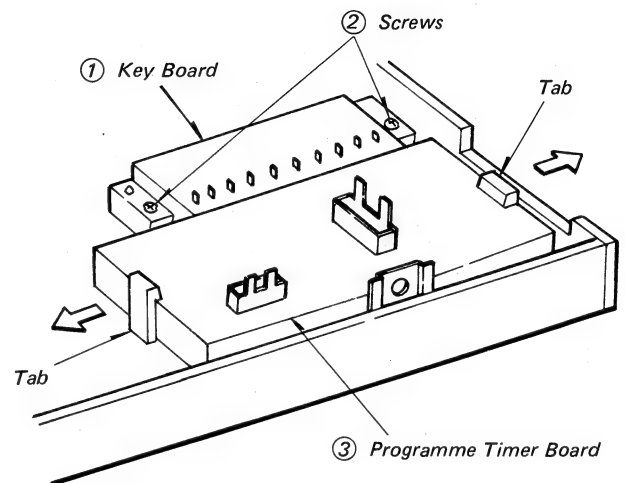

Fig. 5-12 Programme Timer Board and Key Board Removal
- (1) Remove the knob from the Programme memory switch ⑨.
- (2) Open the two tabs holding the Programme Timer board ③ one by one in the arrow (⇐⇒) direction.
- (3) Take the board out for removal.
7. Removing the key board (as shown in Fig. 5-12)